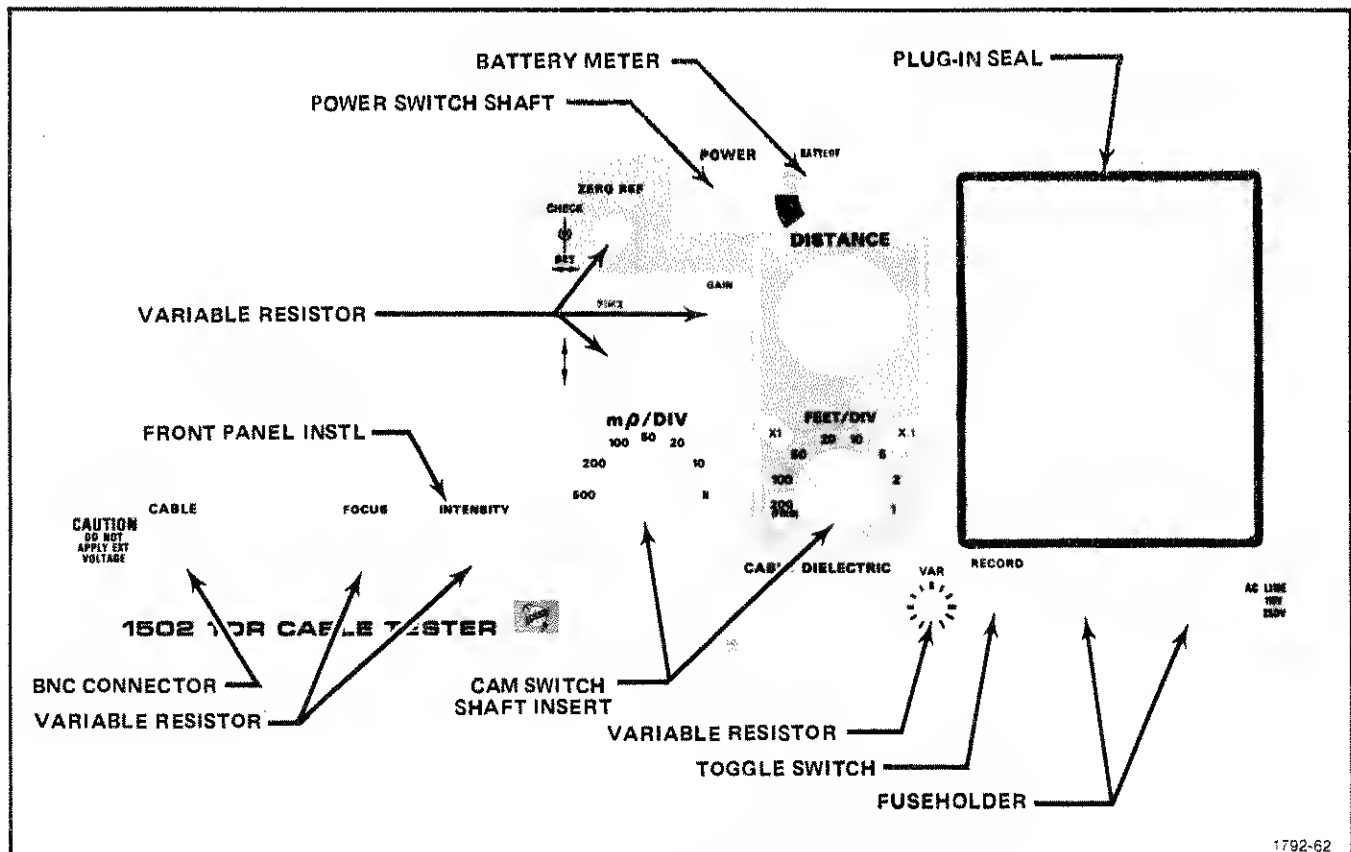

Fig. 5-8. Front Panel, identification of parts for assembly steps 8 through 26.
8. Preparation of Front Panel for assembly (see Fig. 5-8)